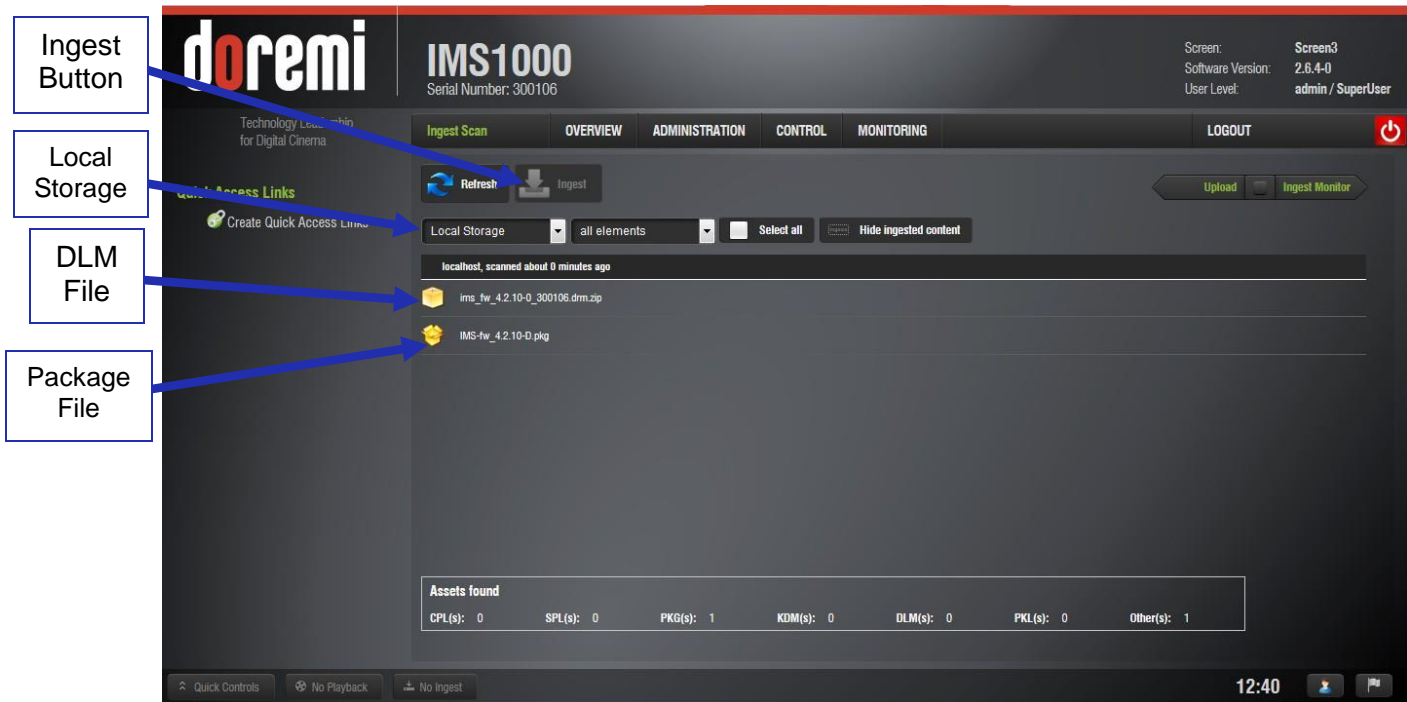

Figure 347: Ingest Manger
- Go to Control → Ingest Manager and select Local Storage from the drop-down menu (Figure 347).
- Select the license file(s) to install only and click the Ingest button first. Then, select the package file and click the Ingest button again (Figure 347).